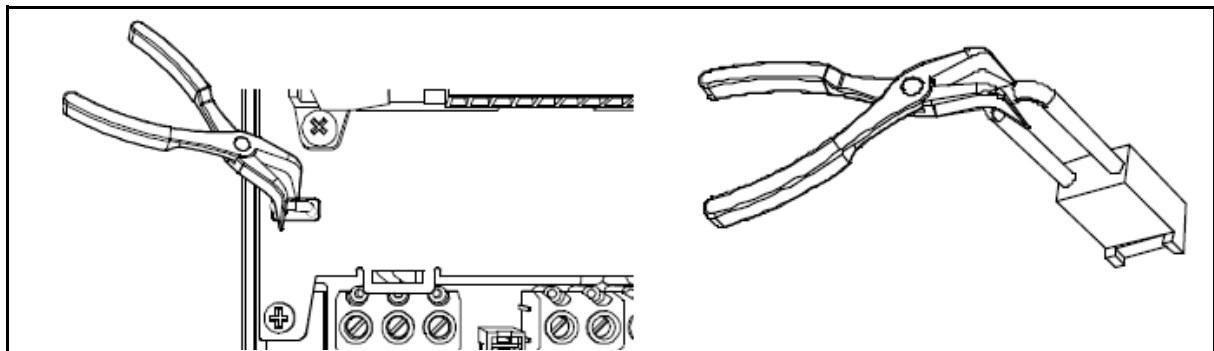

Figure 53. Removing the jumper, MR5 as example
**2** Disconnect the RFI-filters from ground by removing the EMC-jumpers using long-nose pliers or similar. See Figure 53.